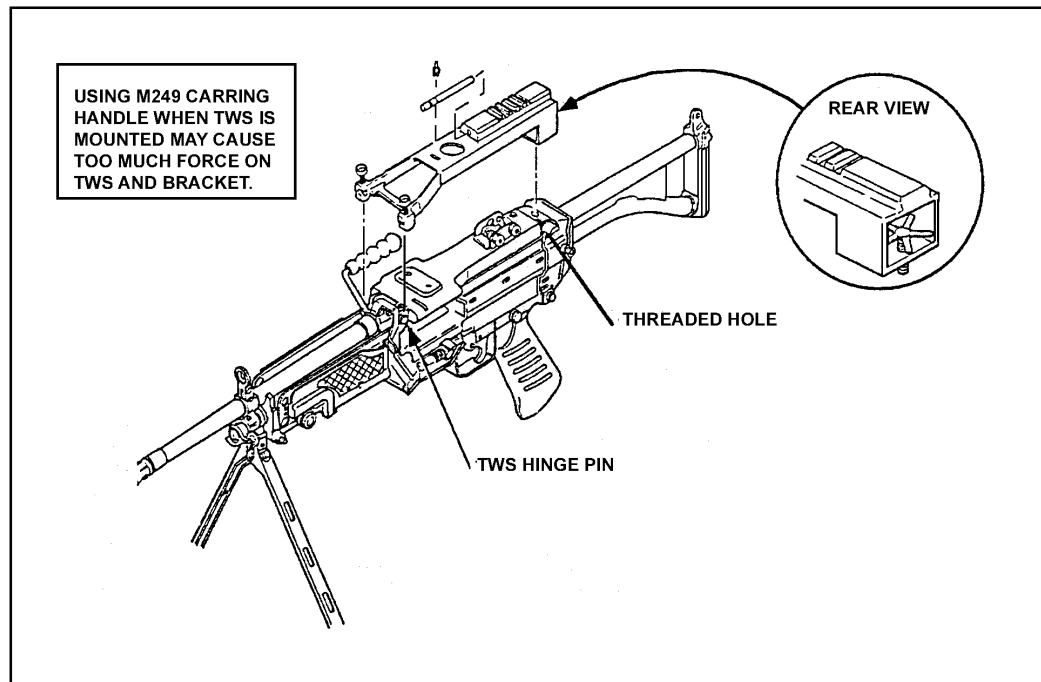

Figure G-26. Mounting the MWTS on the M249.
(1) *Mounting Procedures.* Before zeroing and qualifying with the AN/PAS-13, the gunner must mount the sight on the weapon (Figure G-26, page G-28).